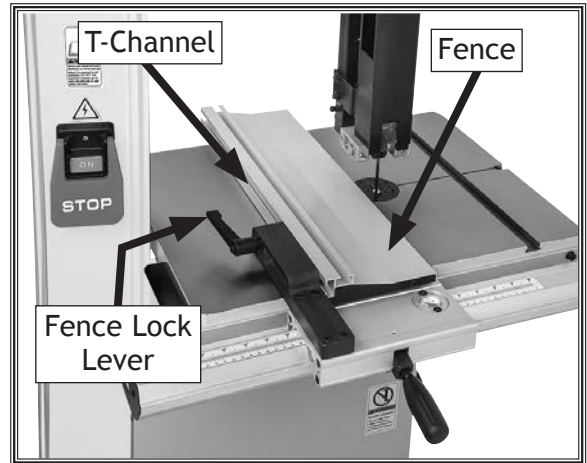

Figure 30. Fence installed in horizontal position.
- For *thin* workpieces, mount fence in horizontal position, as shown in **Figure 30**, then rotate fence base lock lever to secure.